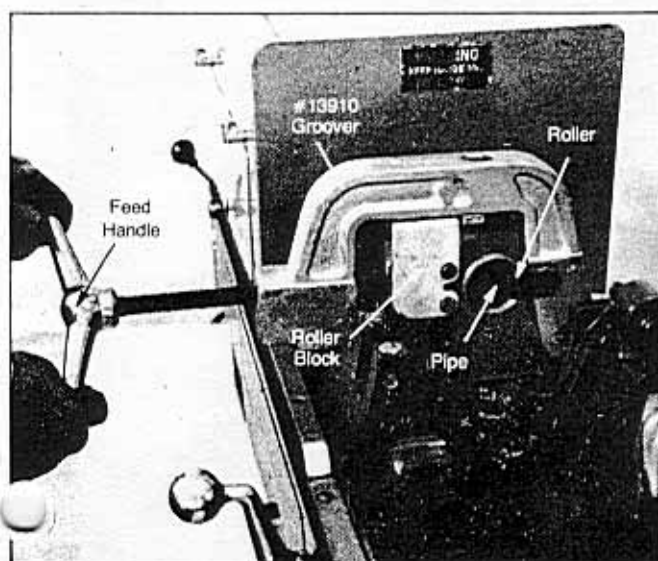

Figure 22 — MPF Groover Assembly
7. Lower the MPF groover into the operating position with roller block retracted to fit over the pipe. Turn the carriage handle counter clockwise to bring stop (Fig. 22) against the reamed pipe end.